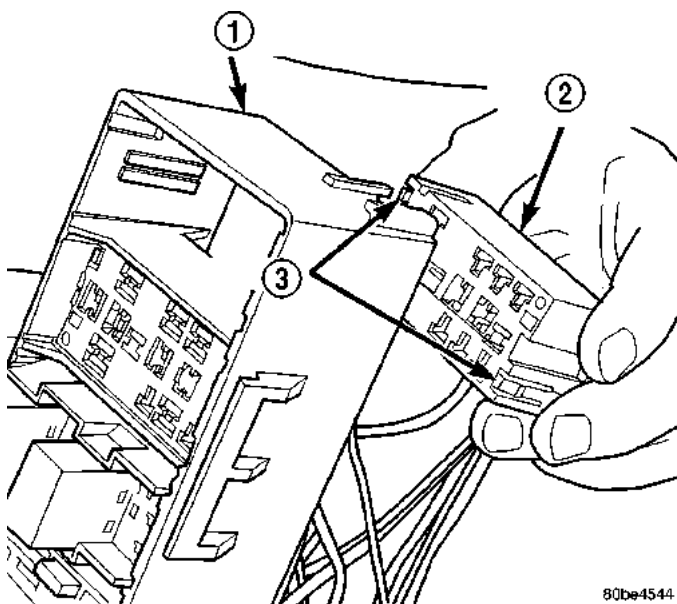

Fig. 14 PDC Relay Cassette Remove/Install - Typical
(3) Gently and evenly press the relay cassette down through the PDC housing.
(4) From the bottom of the PDC housing, remove the relay cassette from the PDC (Fig. 14).